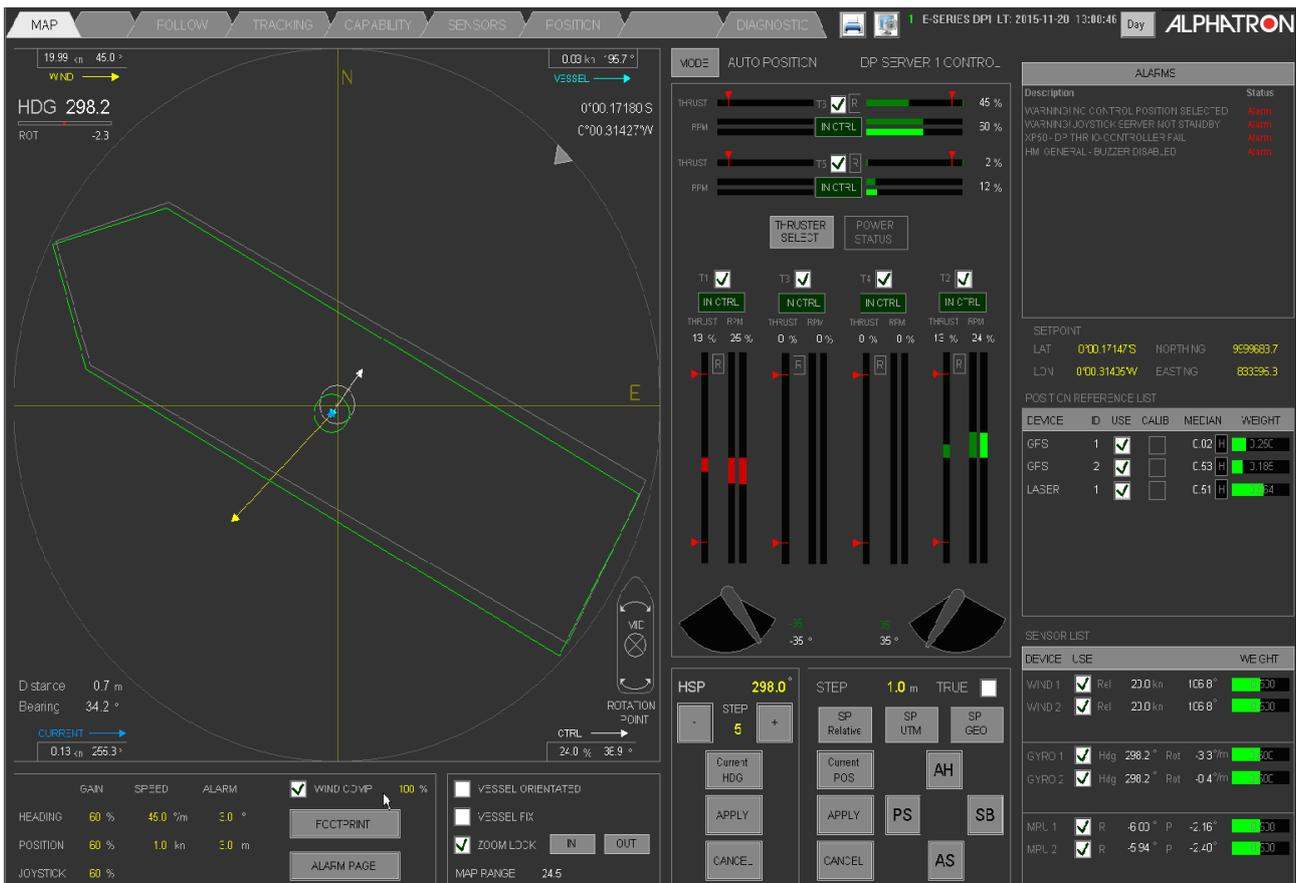

Figure 20: DP MAP Screen
Press MODE and the desired mode button on the large screen (MAP tab). Pressing mode requires double clicking if that is configured (*Figure 20: DP MAP Screen on page 32*).
1. Map (Figure 20: DP MAP Screen on page 32)